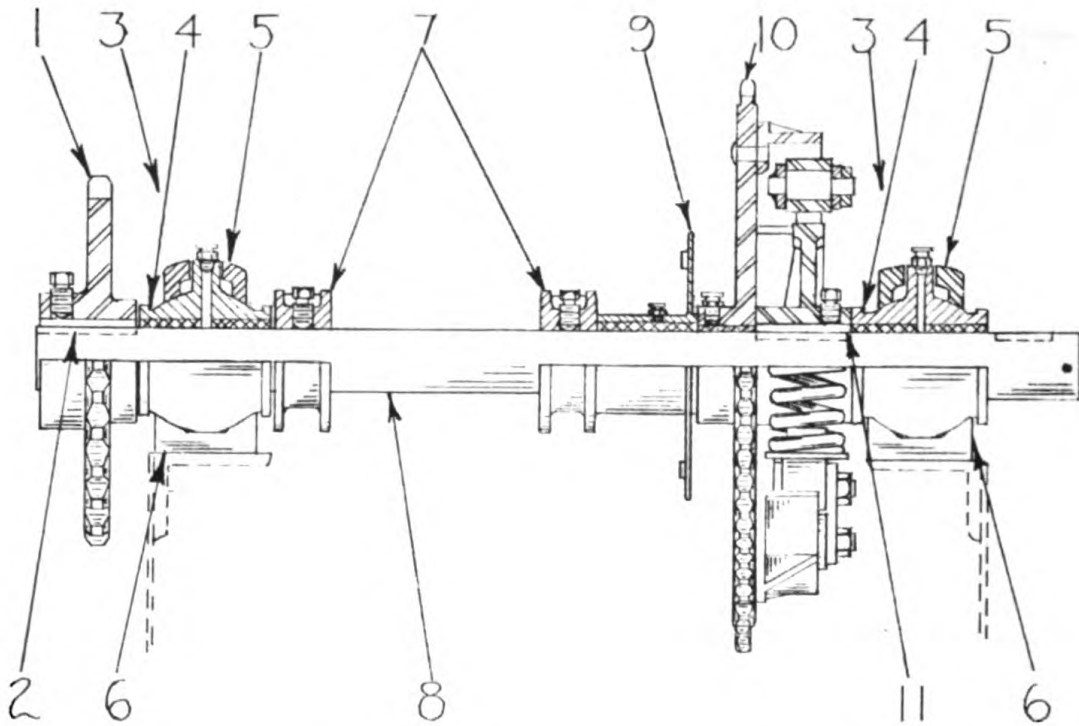

Figure 119. Spiral drive countershaft.
The Spiral Drive Countershaft (10f), Figure 96 chains to sprocket (10), Figure 119 and from sprocket (1), also sprocket (1) are the only parts which may be replaced without complete disassembly of the countershaft. See general overhaul for disassembly.
- (h) Overload release sprocket (10), Figure 119 may be removed.
- (i) Bearing patch (9) may be removed.
- (j) Loosen set screws and remove collars (7).
- (k) Loosen two set screws and remove sprocket (1).
- (l) Remove bearing (4) which is next to sprocket (1).